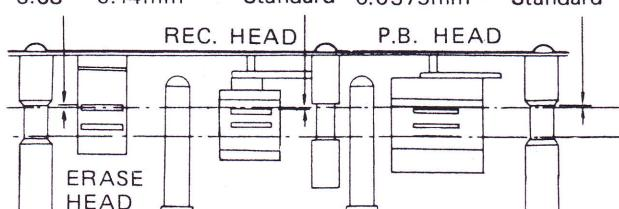

Fig. 24
7.1 COURSE ADJUSTMENT (Figs. 24, 25)
Adjust screws to proper relation dimension between tape and heads as shown in Fig. 24.